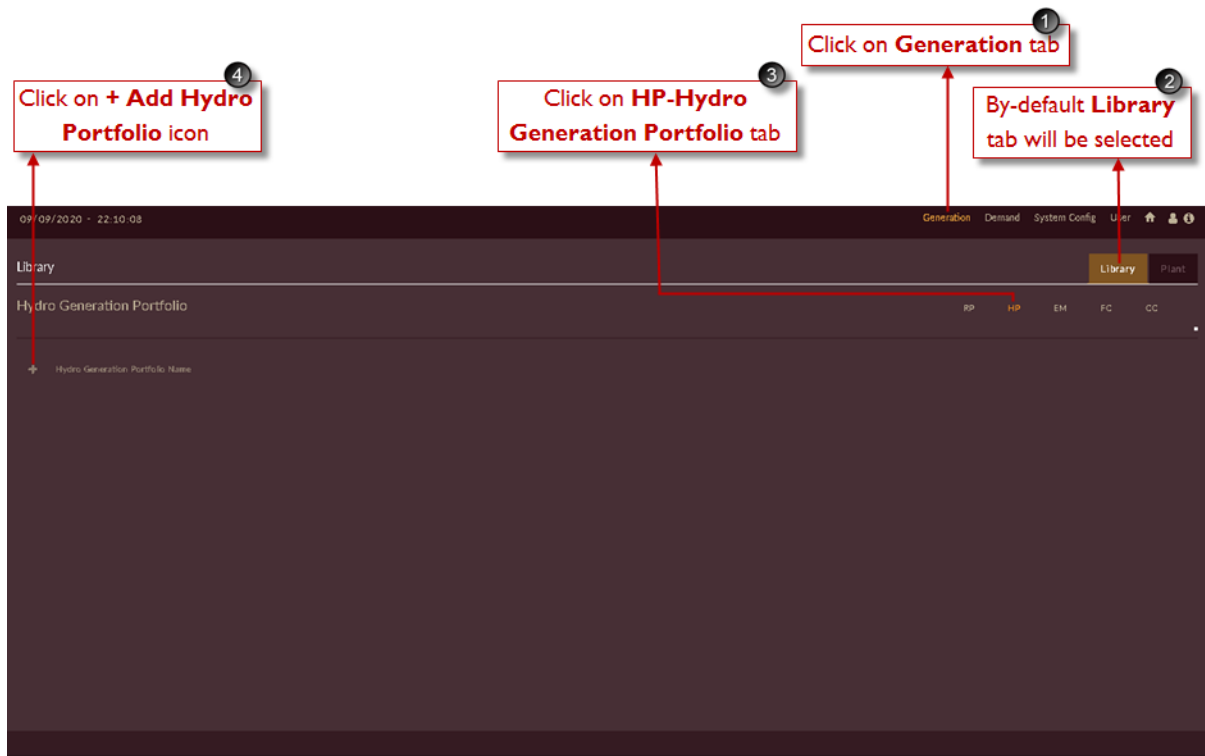

Figure 164. Adding Hydro Generation Portfolio
1. Click on **Generation** tab. The **Generation** tab appears as shown in Figure 164